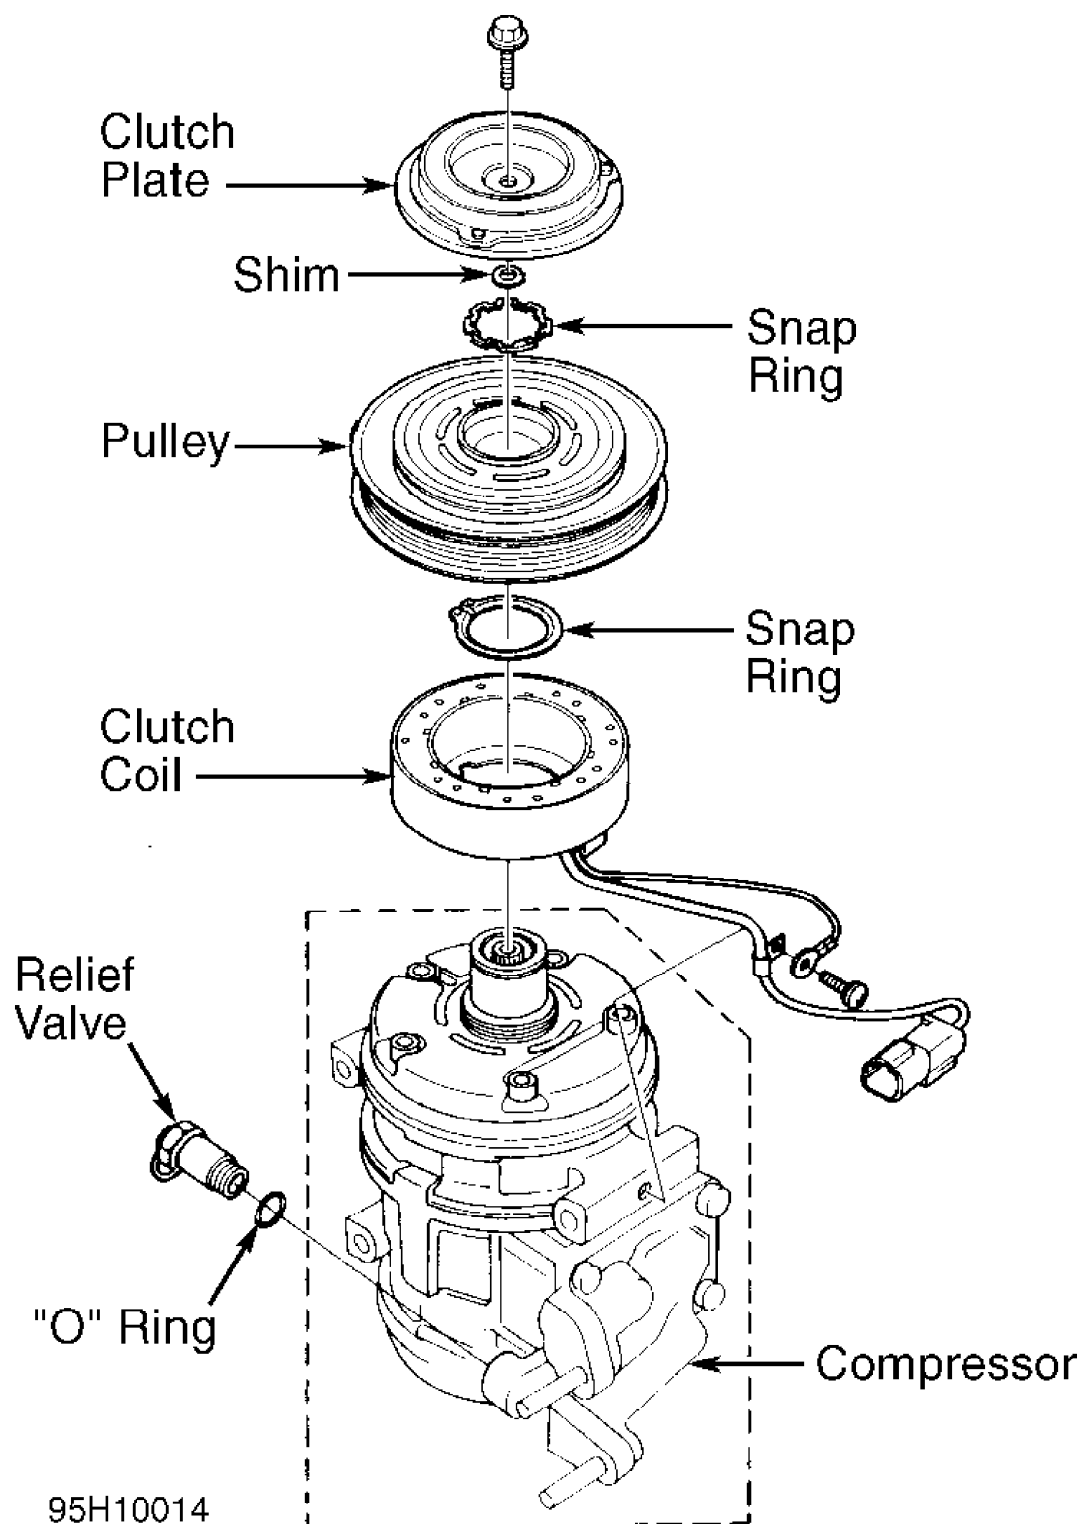

Fig. 2: Exploded View Of Nippondenso 10-Cyl. Compressor (Typical)
3) Remove snap ring, bearing, and seal (if equipped) from pulley. See Fig. 2. Remove screw for clutch coil lead. Remove snap ring and clutch coil.